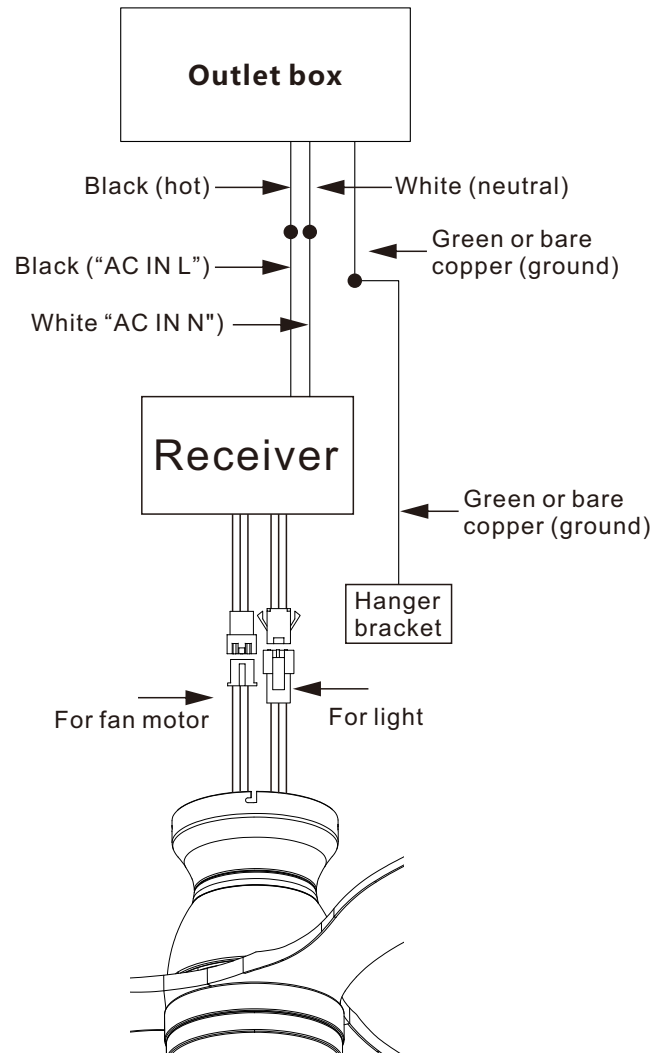

Figure 14
Motor to Receiver Electrical Connections:(Fig.14)
Step 2. (Fig.14) Receiver to House Supply Wires Electrical Connections:
Step 3. (Fig.14) If your outlet box has a ground wire (green or bare copper) connect it to the fan ground wires and the receiver ground wire; otherwise connect the hanging bracket ground wire to the fan and the receiver ground wire. Secure the wire connection with a plastic nut provided. After connecting the wires, spread them apart so that the green and white wires are on one side of the outlet box and other wires are on the other side. Carefully tuck the wire connections up into the outlet box.